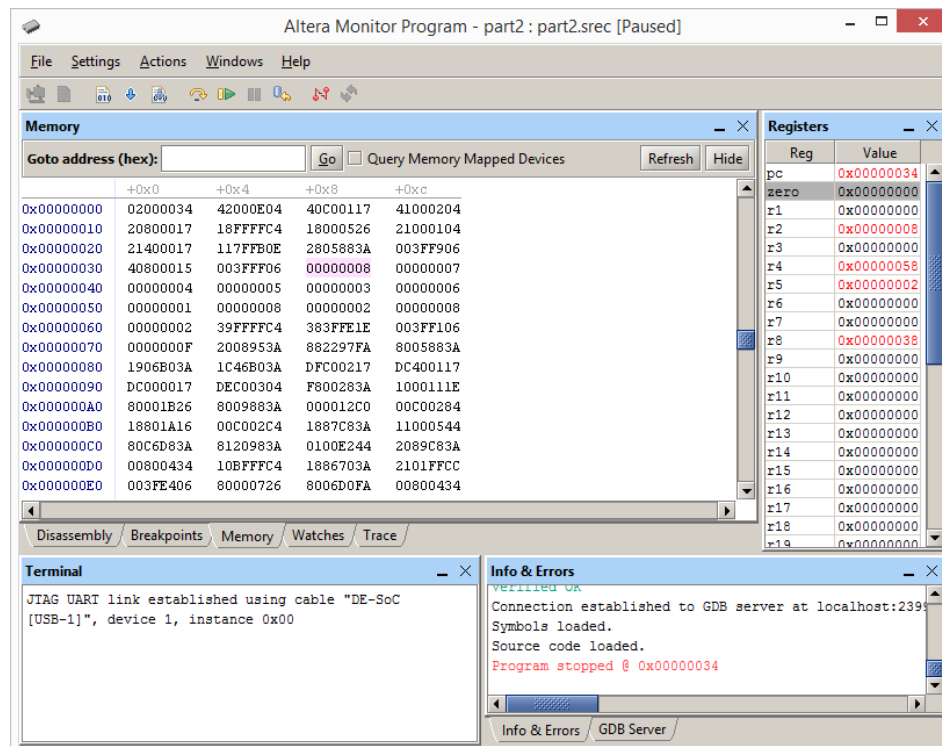

Figure 11: Displaying the result in the memory tab.
- Execute the program. When the code is running, you will not be able to see any changes (such as the contents of registers or memory locations) in the Monitor Program windows, because the Monitor Program cannot communicate with the computer while code is being executed. But, if you pause the program then the Monitor Program windows will be updated. Pause the program using the icon  and observe that the processor stops within the endless loop **STOP: br STOP**. Note that the largest number found in the sample list is 8 as indicated by the content of register r2. This result is also stored in memory at the label RESULT. As discussed above, the address of the label RESULT for this program is 0x00000038. Use the Monitor Program's Memory tab, as illustrated in Figure 11, to verify that the resulting value 8 is stored in the correct location.